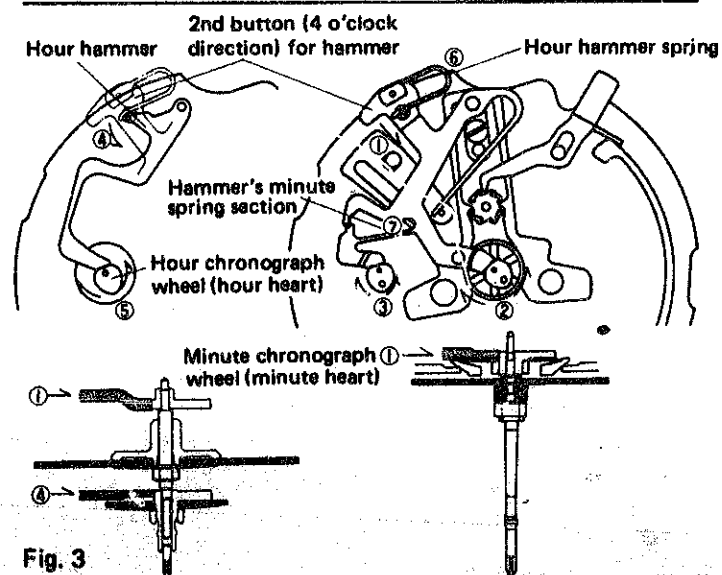

Fig. 3
The chronograph hour-hand also is returned to zero when the hour hammer ④ linked with the hammer strikes the hour heart ⑤ (Refer to Fig.3.)
At the aberrations between assembly parts are fully absorbed by the hour hammer spring ⑥ and hammer's minute spring section ⑦, adjustment of the hammer which is inevitable in assembly and repair of conventional stop-watches and chronographs are entirely eliminated in the 7016A chronographs. (Refer to Fig. 3.)